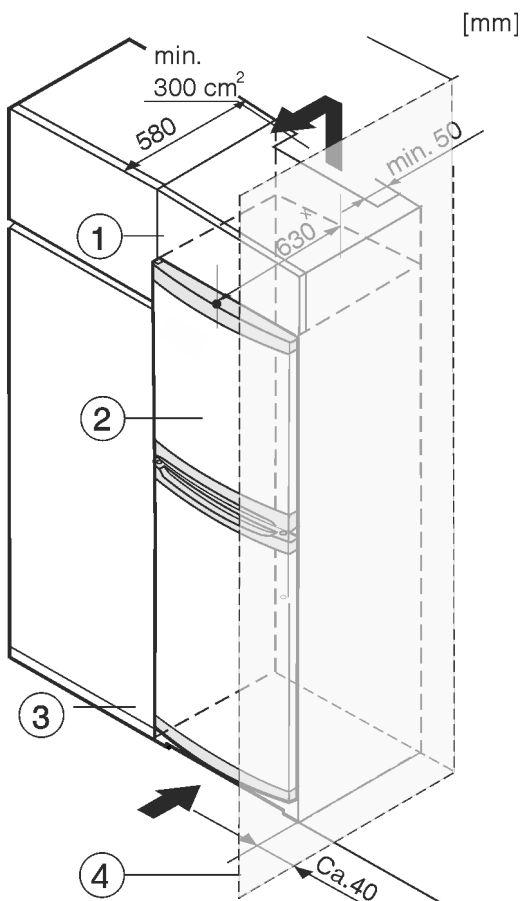

Fig. 8
The appliance can be built into kitchen units. A top cupboard Fig. 8 (2) can be added above the appliance in order to bring the appliance Fig. 8 (1) up to the height of the fitted kitchen units.
When fitting kitchen cupboards around the appliance (max. depth 580 mm), you can install the appliance directly next to the kitchen cupboard Fig. 8 (3). The appliance protrudes 34 mm * to the side and 50 mm * in the centre of the appliance in relation to the kitchen cupboard front.
If the appliance is set up with the hinges next to a wall Fig. 8 (4), the distance between the appliance and the wall must be at least 40 mm. This is how far the handle protrudes when the door is open.